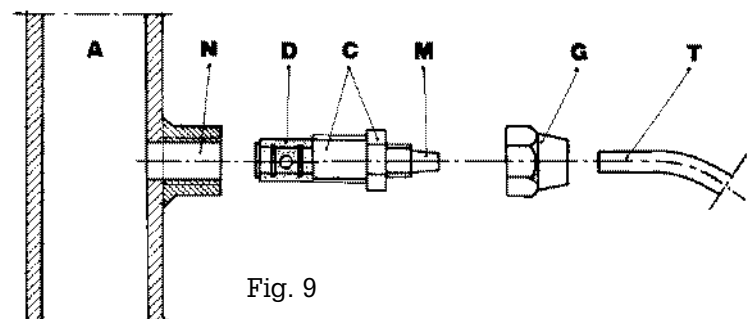

Fig. 9
- g. - Select the most appropriate injection point on a pipe of the plant to be treated and there fit a 3/8" female steel gas thread connector (similar to BSPm). This connector is not supplied with the pump. Screw the injection valve to the gas connector, inserting a gasket as shown in Fig. 9. Then connect the discharge hose to the conical connector on the injection valve and fix it with the supplied tube nut G. The injection valve also acts as no return valve by means of a cylinder sleeve (elastomer, standard supplied in Viton).
DIAGRAM (Fig. 9)**